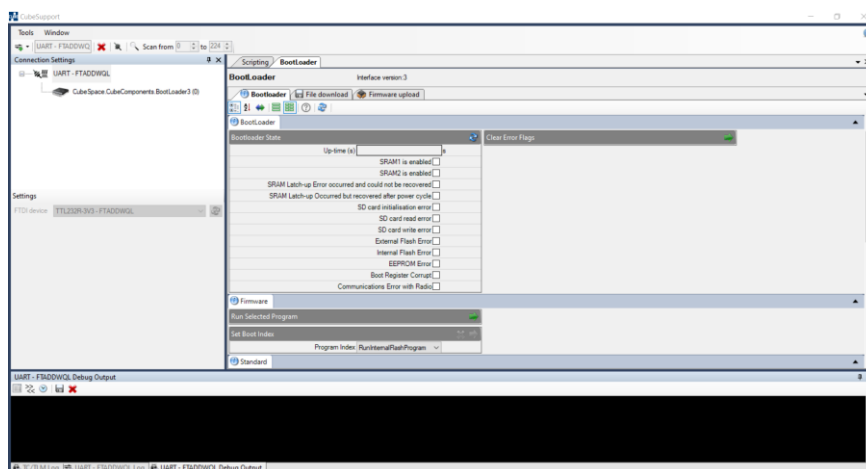

Figure 5 – CubeSupport bootloader interface
- Now power on the CubeADCS and wait one second for everything to power on.** Connect to the ADCS with **CubeSupport** within the first five seconds of power on by clicking on the connect button . **CubeSupport** should connect to the bootloader and the bootloader menu should be displayed as shown in Figure 5.